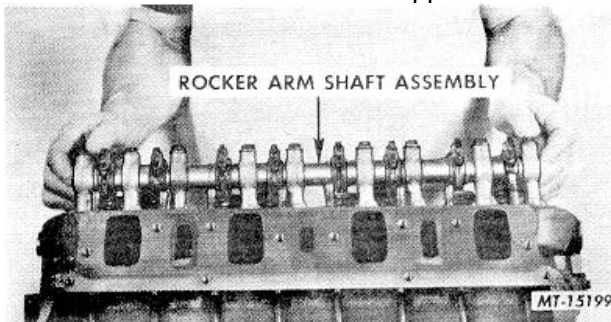

Fig. 31 Rocker Arm Shaft Assembly Removal
38. Loosen the rocker arm shaft bracket mounting bolts and remove rocker arm assembly, Fig. 31. These are self-locking type bolts employing a nylon pellet which can be washed in cleaning solvent and can be reused innumerable times providing a coat of non-hardening sealing compound is applied to the bolt threads. This type bolt also provides a seal for the threads in the cylinder head and prevents oil entering the intake port, as these holes are drilled directly into the intake port of the cylinder head. In no case should a standard bolt be used in this application.